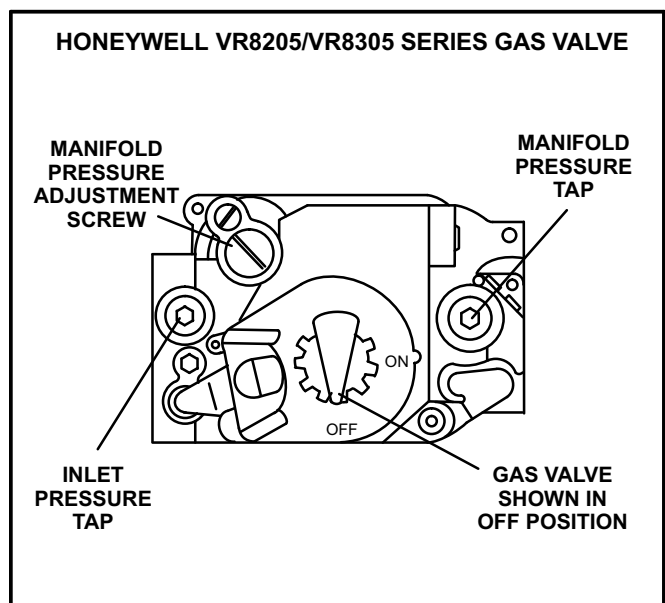

FIGURE 2
- 2 - After gas line pressure has been checked and adjusted, check manifold pressure at the pressure tap on the outlet side of the gas valve. The correct manifold pressure for natural gas is given in table 1. Refer to figure 2 for gas manifold pressure adjustment screw location.